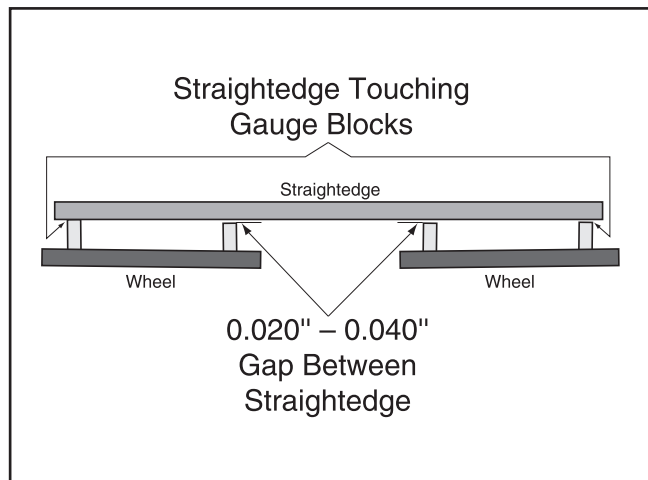

Figure 46. Overhead view of straightedge on blade wheel gauge blocks.
- If the wheels are properly aligned, the straightedge will touch both inside gauge blocks and there will be a 0.020"–0.040" gap between the straightedge and the outside gauge blocks, as shown in **Figure 46**. If this is the case, skip to **Step 9**.